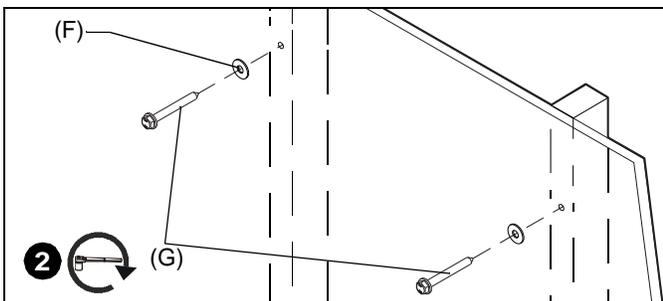

Figure 4
2. Use one 5/16" x 3-1/2" hex head lag bolt (G) through one 5/16" washer (F), the strut channel (B) [landscape installation ONLY], the PSMO2086 and into pilot hole. (See Figure 4)